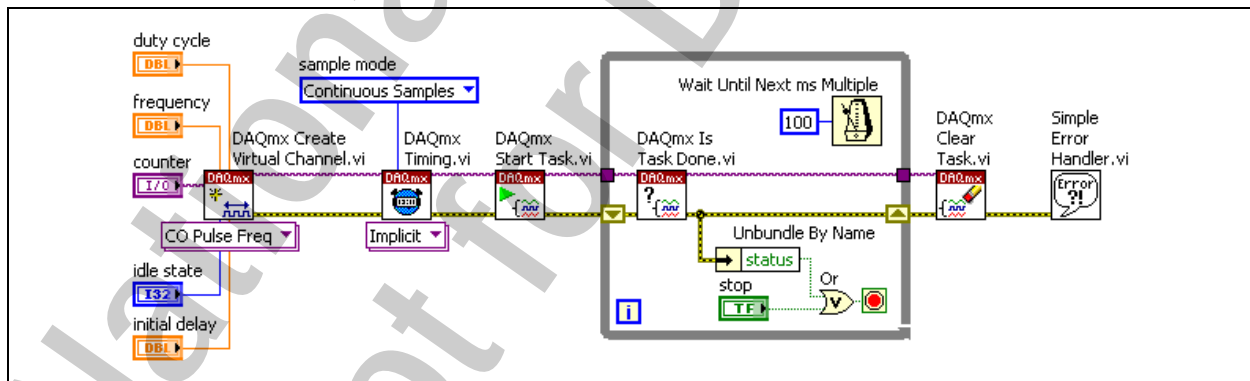

Figure 6-9. Pulse Train Generator VI Block Diagram
2. Modify the block diagram to generate a series of pulses, as shown in Figure 6-9, using the following items: